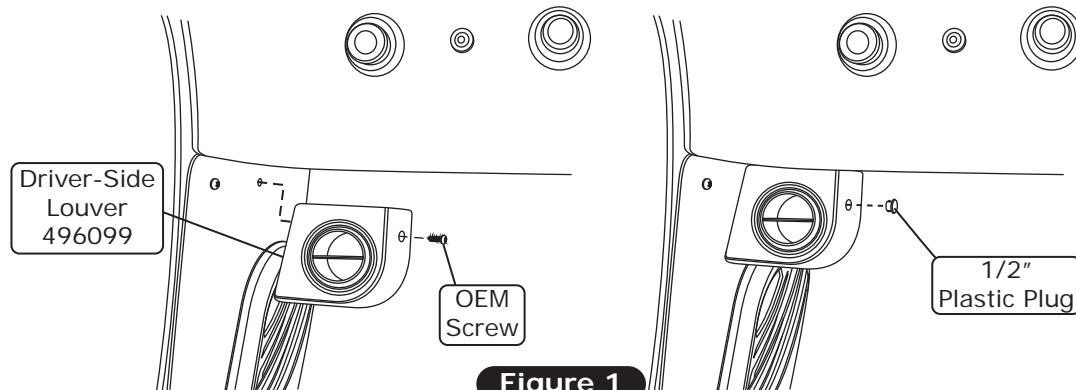

Figure 1
2. Install a 1/2" plastic plug into the driver-side louver as shown in Figure 1, below.